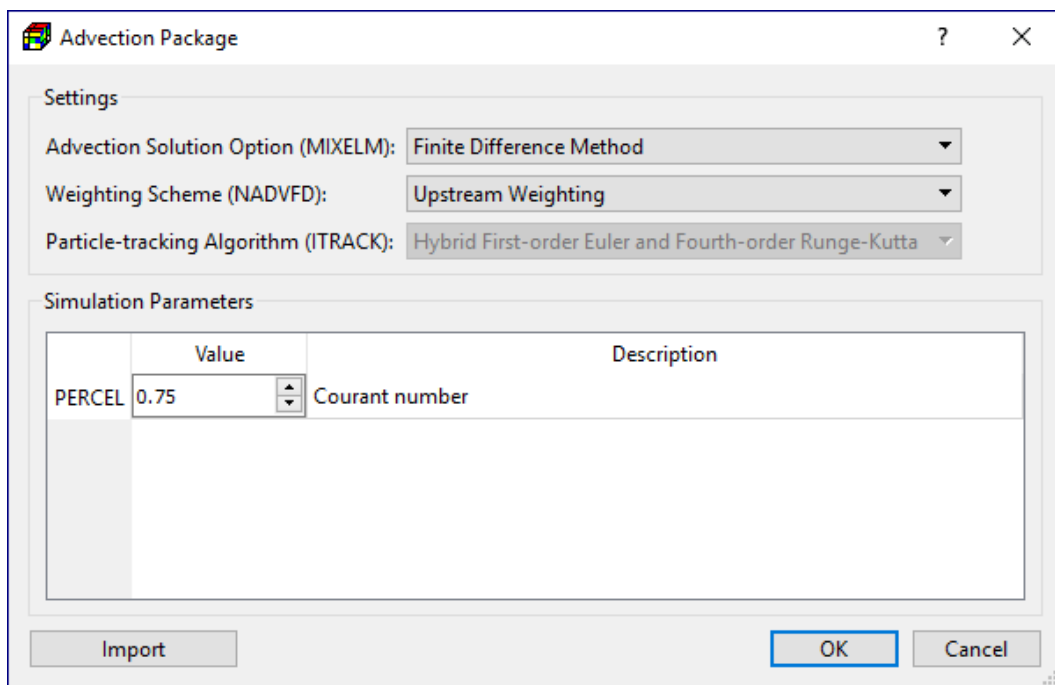

Figure 23. The Advection dialog box
1. Select Models > MT3D/SEAWAT > Packages > Advection (ADV) to open the Advection Package dialog box (Figure 23).
2. Enter the values and settings as shown in Figure 23.